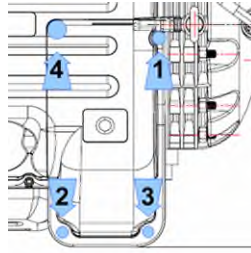

Figure 6 – Mains Input Cover Install
4. Place the New Mains Input Cover and secure it with the fasteners. Tighten according to the following sequence. Refer to Figure 6 (Mains Input Cover Install).